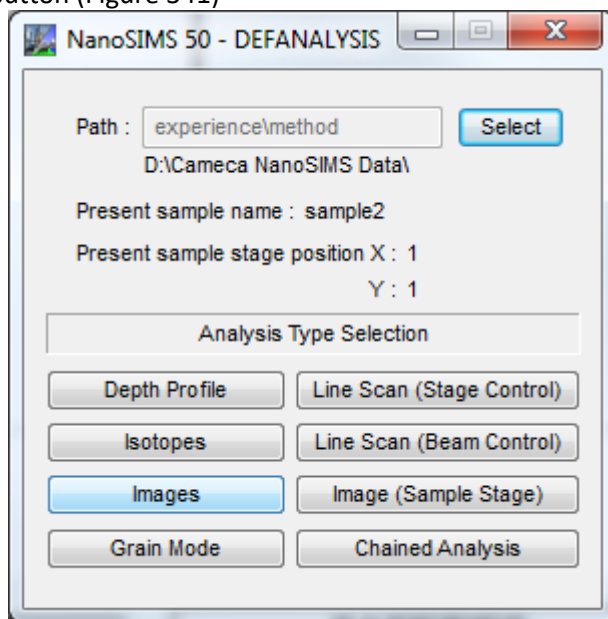

Figure 341: Def Analysis main menu
- Click on the “images” button (Figure 341)